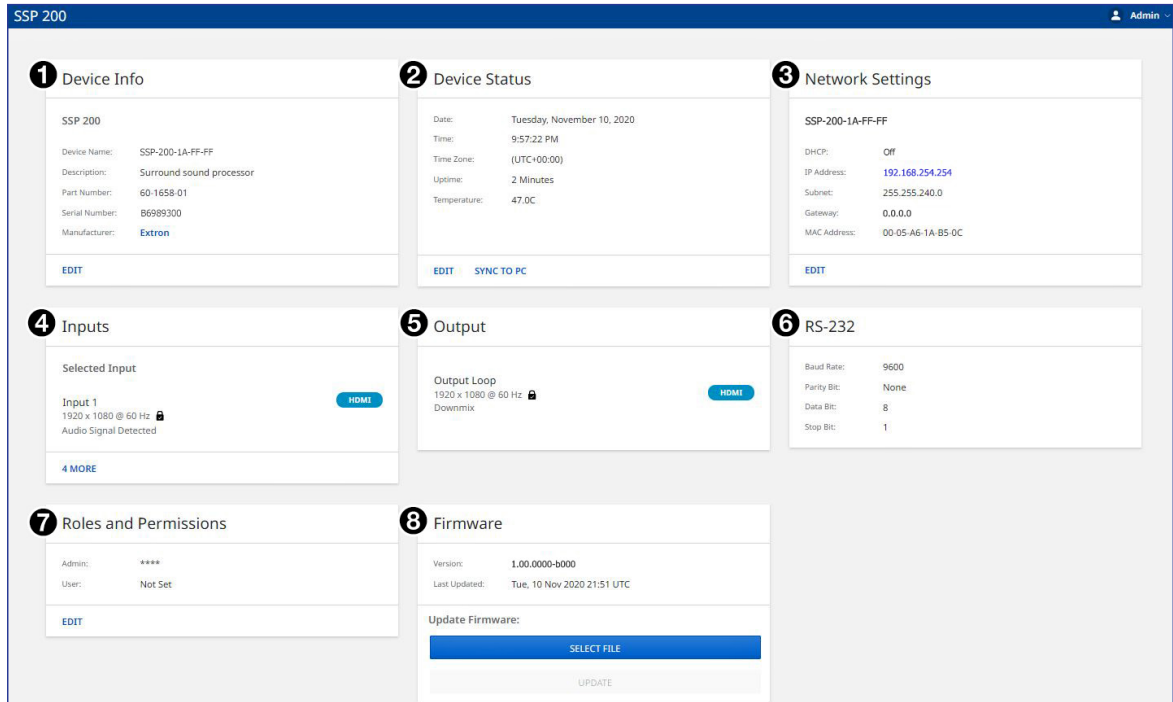
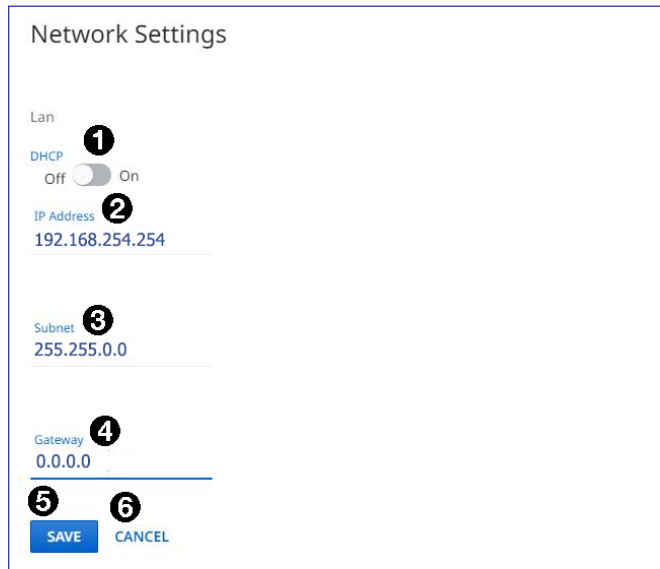
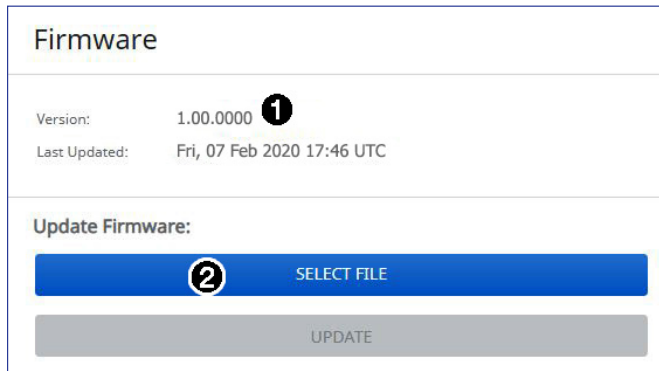

Figure 63. Web Page
Figure 66. Network Settings Dialog Box
Figure 69. Firmware Panel
The SSP 200 web page (see figure 63) has eight panels:
The **Network Settings** panel shows the current network settings for the SSP 200 (see figure 63 on page 81). To change the settings, click **EDIT** to access the **Network Settings** dialog box (see figure 66).
The **Inputs** panel displays the name and signal type of the active input as well as its HDCP status (see figure 63, 4, on page 81).
This panel displays the status of the connected output (see figure 63, 5). This panel is not user-configurable.
This panel displays RS-232 information (see figure 63, 6, on page 81). This panel is not user-configurable.
The **Roles and Permissions** panel on the main web page gives the user access to set the admin and user passwords for the SSP 200 (see figure 63, 7).
The **Firmware** panel (see figure 63, **8**, on page 81) displays the current firmware version and when it was last updated to the device (see figure 69, **1**).
3. On the **Firmware** panel, click **Select File** (see figure 69, **2**). This opens an Explorer window on your PC.